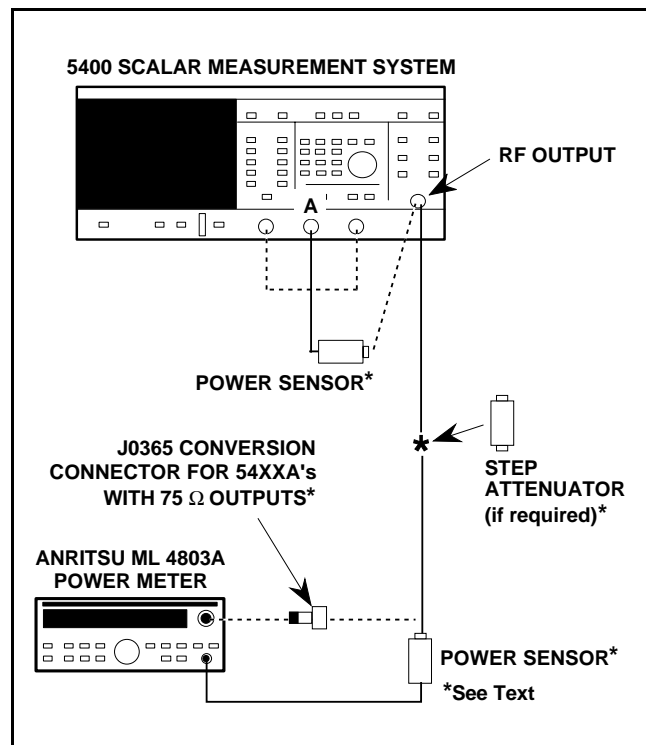

Figure 5-5. Equipment Setup for Mid Band RF Frequency Signal Channel Verification Test
1. Set up the equipment as shown in Figure 5-5, and turn the equipment on.
connect the MA4601A power sensor to the power meter. For units equipped with a 75Ω signal source output, connect the MA4603A power sensor (in conjunction with the J0365 Conversion Connector) to the power meter (see Figure 5-5). Perform a calibration as instructed in the Anritsu ML4803A operations and service manual. Do not connect the power sensor to the 54XXA RF OUTPUT at this time.